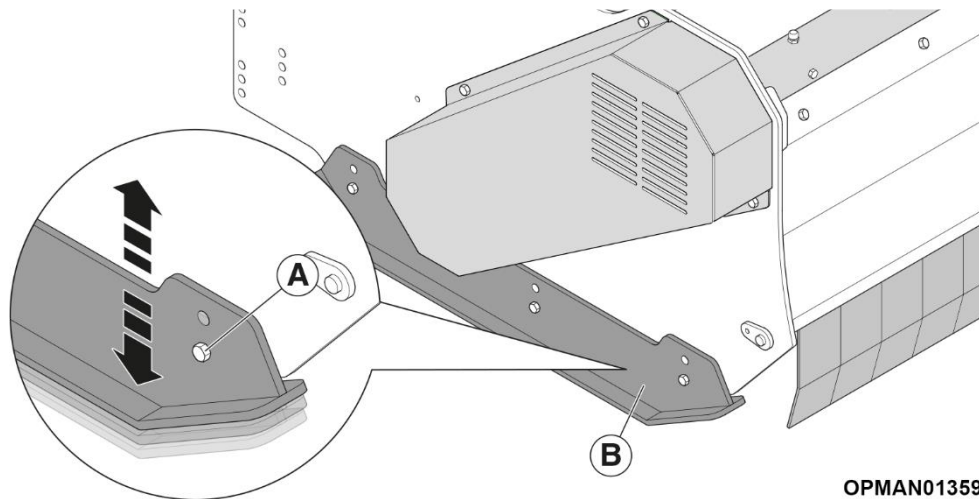

Figure 12
- 4.3.1.3 Remove fasteners, Figure 12 (A).